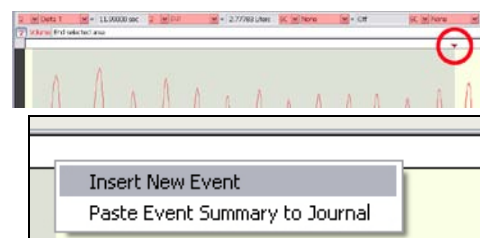

Fig. 13.27 Event Marker insertion
11. Place an event marker at the end of the 12 second selected area (Fig. 13.27).